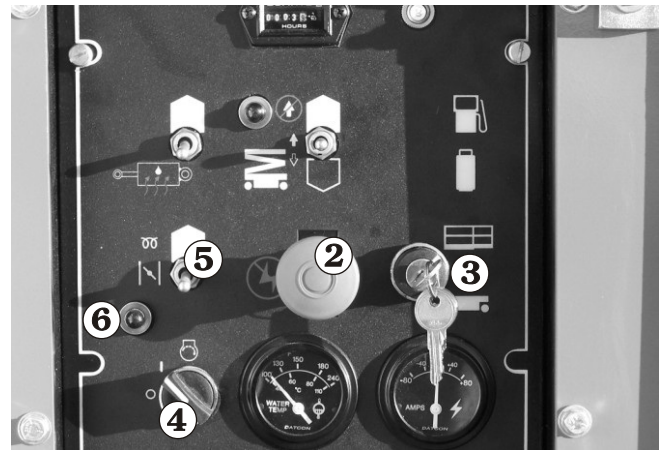

Figure 8.8
- Set the **Emergency Stop** switch **2** to on (up) (see Figure 8.8).
- Set the **Ground/Platform Selector** switch **3** to ground (see Figure 8.8).
- Turn the key **4** to on do not turn the key **4** to start (see Figure 8.8).
- If the engine is at ambient temperature, momentarily press the **Glow-Plug** switch **5**. This action will automatically turn the glow-plugs, in the engine, on for 10 seconds. A light **6** will automatically come on to indicate that the glow-plugs are on (see Figure 8.8).
- When the light **6** goes out, turn the key **4** to start and hold it there until the engine starts or for 20 seconds, whichever comes first. When the engine starts, release the key **4** (see Figure 8.8).